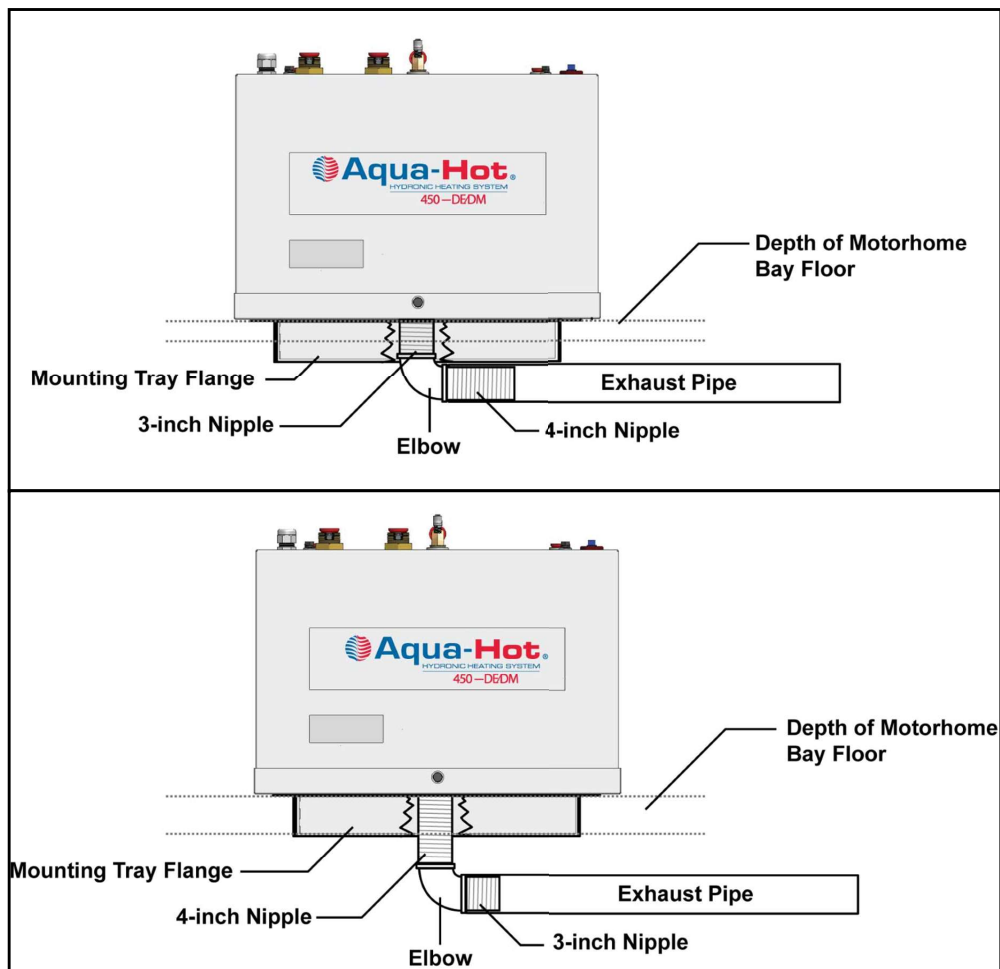

Figure 17
- The Aqua-Hot is supplied with a 3 inch and 4 inch black pipe nipple (1.5 inch diameter) along with a 1.5 inch exhaust elbow. Reference Figure 16. These three exhaust system components MUST BE utilized with all product installations. Be sure to reference Figure 17 and 18 to determine which exhaust nipple should be connected directly to the Aqua-Hot's exhaust port (the 3 inch of the 4 inch black pipe nipple).